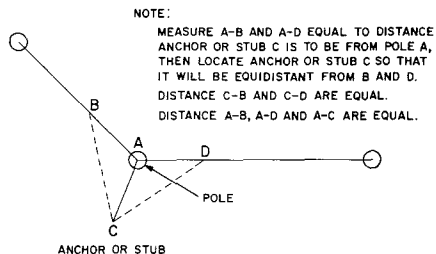

Fig. 6—Bisecting Angle By Taping Measurement
5.04 When a C pull finder is not available or the conditions described in 3.01 make the use of the C pull finder impractical, bisecting the angle of pull can be accomplished by taping the measurements as shown in Fig. 6.